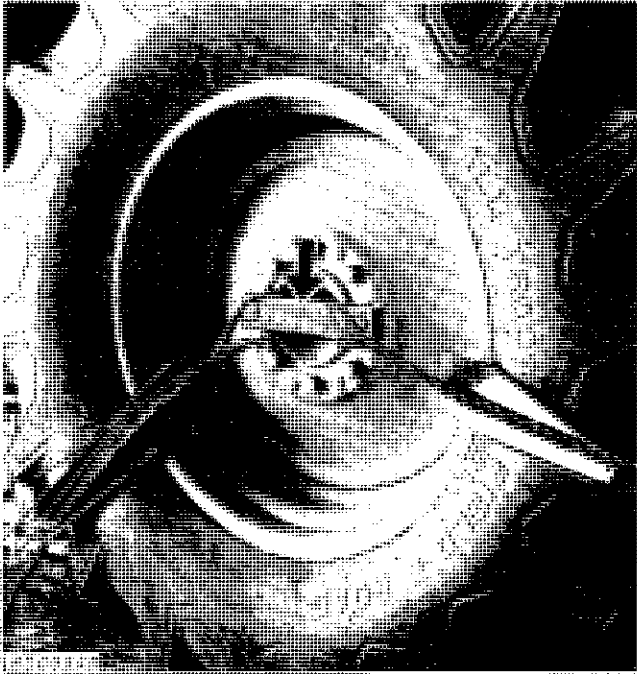

Fig. 8-Removing Shipping Straps
6. Remove shipping strap (both sides) and discard the two cap screws (Fig. 8). Replace the two cap screws with the two flanged bolts shipped in a plastic bag in the tool box. Remove all wood blocking.